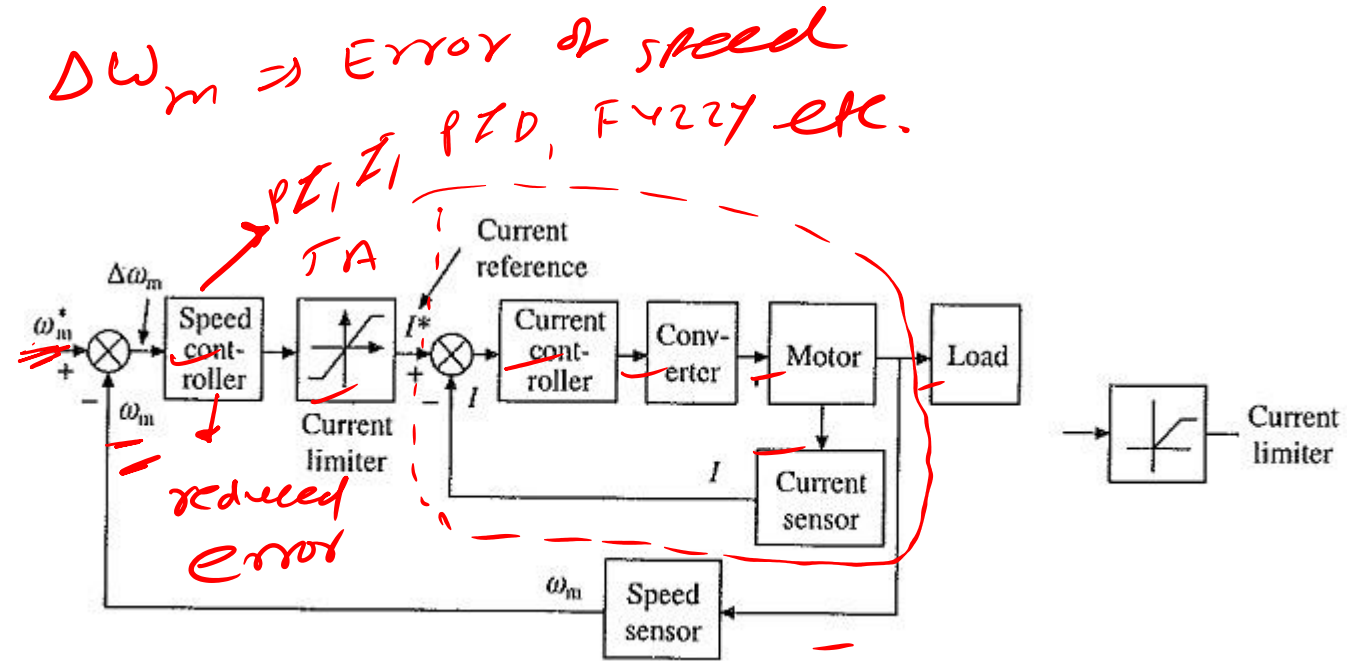

Fig. 3. Closed loop speed control of drives.
- Figure 3 shows a closed loop speed control scheme which is widely used in electrical drives.